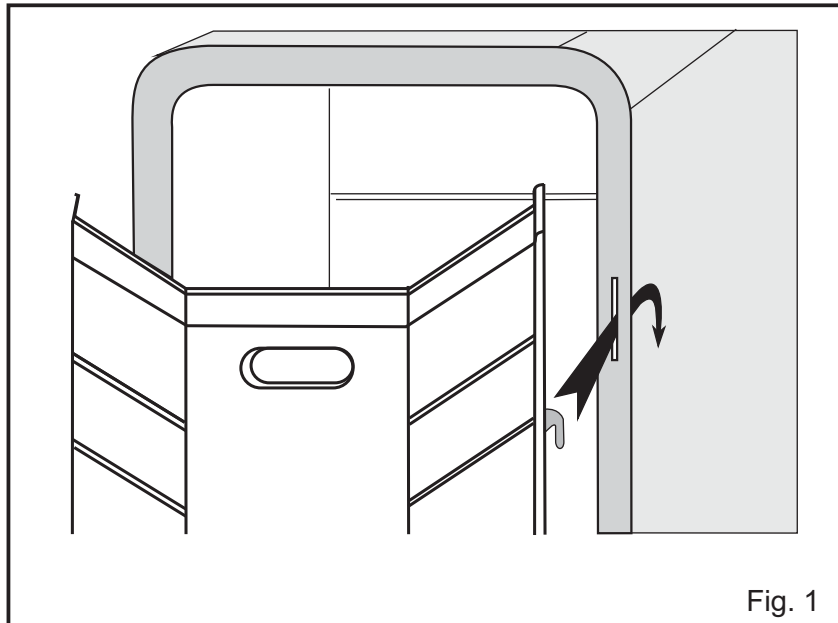

Fig. 1
- Refit the heater rear panel to the body by engaging the clips as shown in Fig 1.
- Take the heater outside and remove the rear panel (Fig 1). Lift out the cylinder and place it on the ground next to the heater. Unscrew the regulator handwheel nut in a clockwise direction.